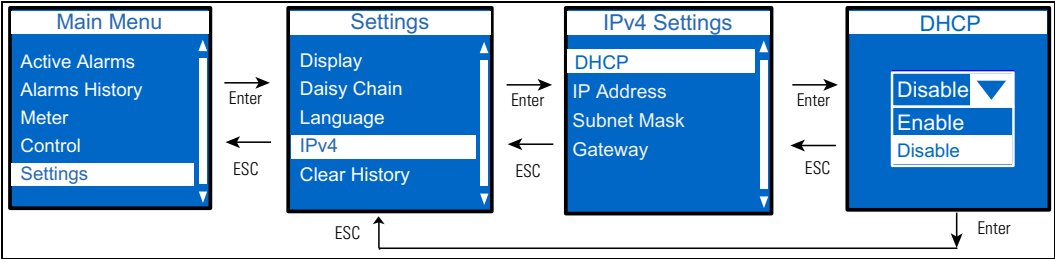

Figure 34. Disable DHCP
- 1. Disable DHCP (see Figure 34).